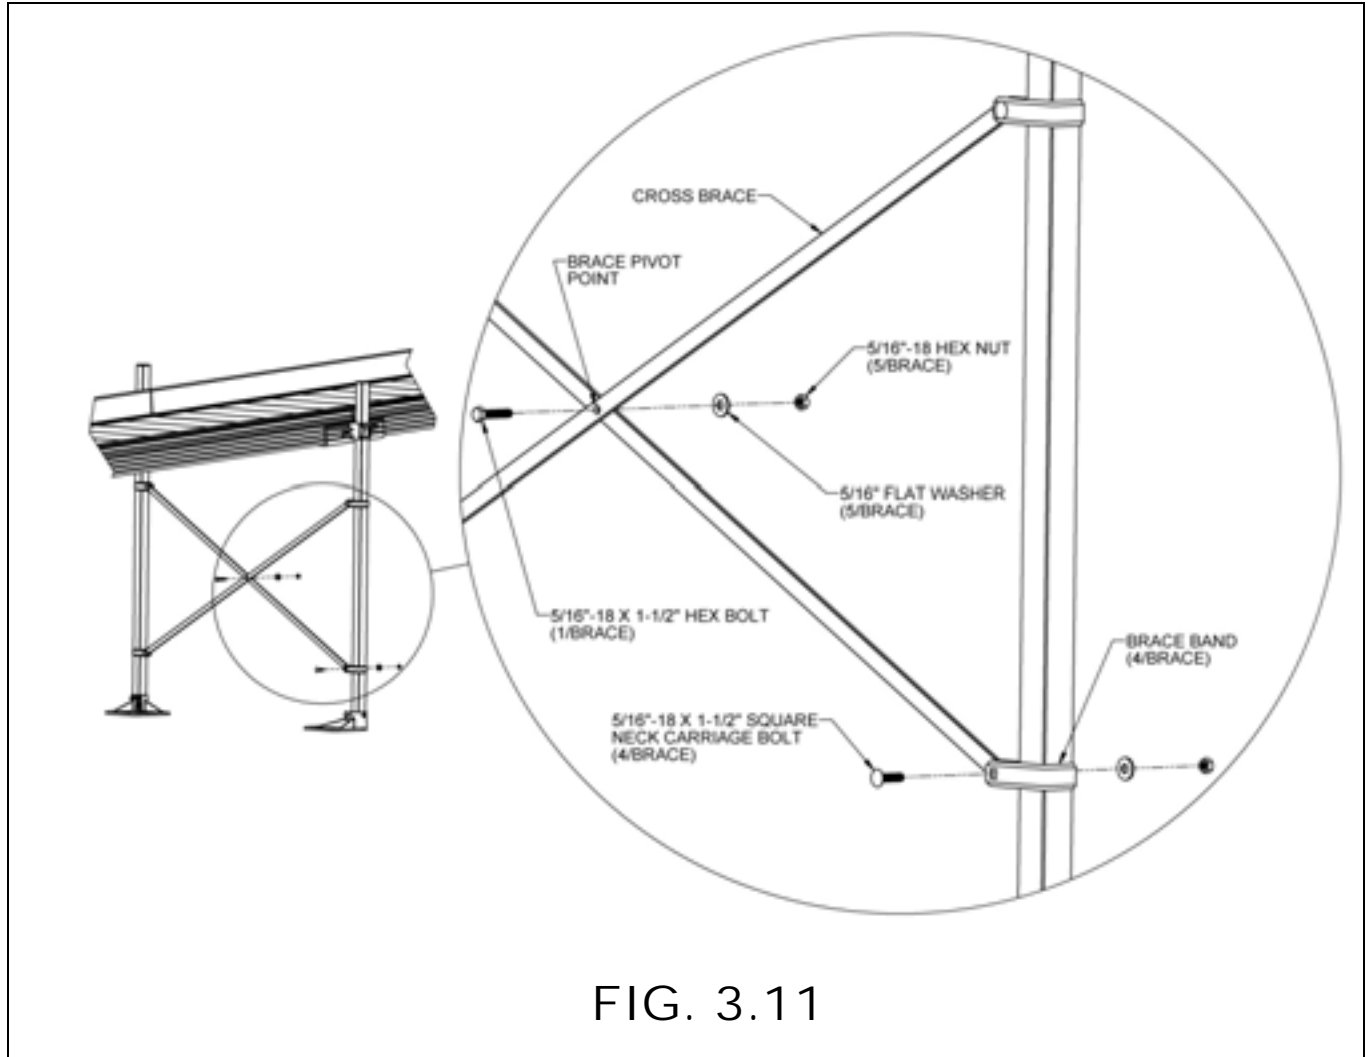

FIG. 3.11
Ramps with walking surfaces over 36" high require bracing (certain configurations and site conditions may require bracing under 36"). The TXB36 (CROSS BRACE) must be installed under the ramp (FIG. 3.11).
- 3.4.2. Install two bands on each leg, with the brace band bolt holes extending under the ramp and aligning with the brace bands on the opposite side (FIG. 3.11).
- 3.4.3. The cross brace should be placed approximately in the middle of the ramp legs with the top brace bands a minimum of two feet from the bottom brace bands (FIG. 3.11).
- 3.4.4. Assemble the cross brace by installing the 5/16"-18 x 1-1/2" hex bolt, 5/16"-18 hex nut, and 5/16" flat washer through the center hole in the braces. Tighten enough to hold brace together but still allow braces to pivot freely around the bolt (FIG. 3.11).
- 3.4.7. Install the assembled cross brace between the platform legs, into each of the 4 brace bands using the four 5/16"-18 x 1-1/2" long square neck carriage bolts, 5/16" washers, and 5/16"-18 hex nuts provided (FIG. 3.11).